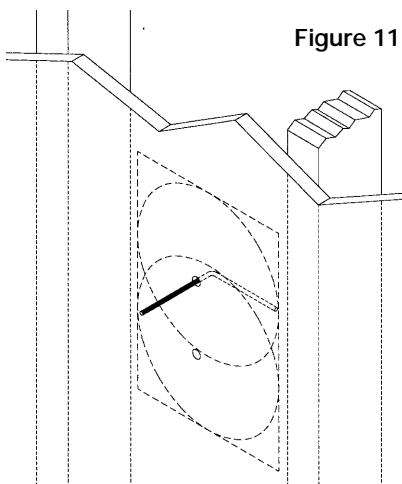

Figure 11
1. Drill a 1/8" pilot hole just barely through the wallboard or dry wall (1/2" to 5/8" deep in most homes) about an inch below the center of your proposed speaker location (an inch to the side if you are mounting the speaker horizontally). **BE VERY CAREFUL NOT TO DRILL THROUGH EXISTING WIRES, PIPES, OR STRUCTURE. IF YOU FEEL ANY EXTRA RESISTANCE AS YOU ARE DRILLING, STOP.** Cut a piece of coat hanger equal to the width of the bracket. Bend the wire in half creating a right angle. Poke the "L-shaped" wire into the pilot hole and turn it in a complete circle. If it turns freely, repeat the procedure from a hole about an inch above the center of your proposed speaker location (**See Figure 11**).